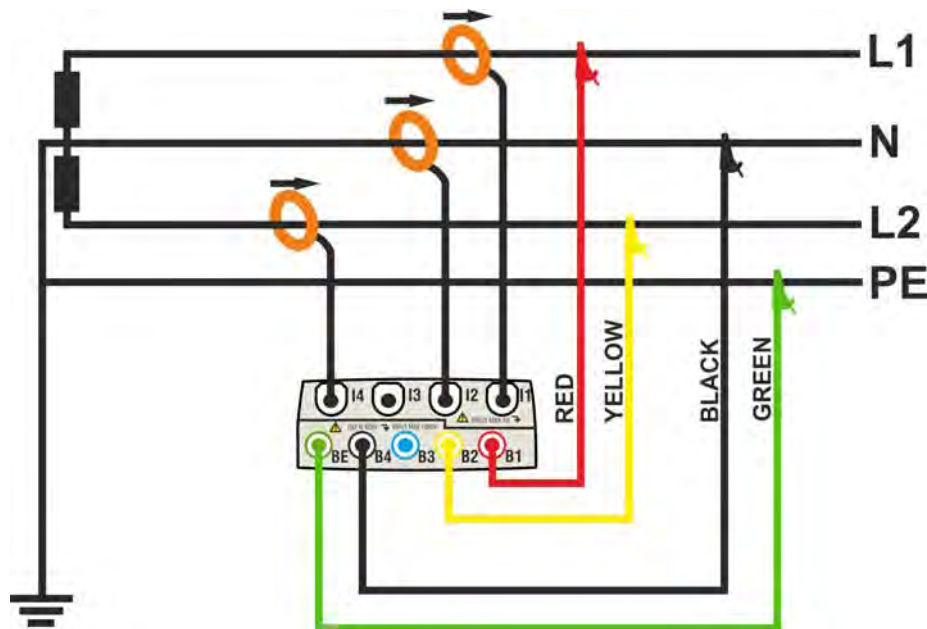

Fig. 131: Meter connection in a two phase 3-wire 1PH3W system – ENG_UK type
2. Connect voltage test leads on Phases L1, L2, N and PE cables considering the colours as shown in Fig. 131
3. Connect the transducer current clamps on Phase L1, L2, N cables as shown in Fig. 131 respecting the clamp's arrow direction indicating the current standard sequence from generator to load. **On Real Time Values' section screens (selecting a 3 wire system preliminarily) always verify the positive value of Active Power and the power factor relative to load which should be normally inductive** before starting a recording. Reverse the clamp by 180 degrees on cables in case of negative readings.